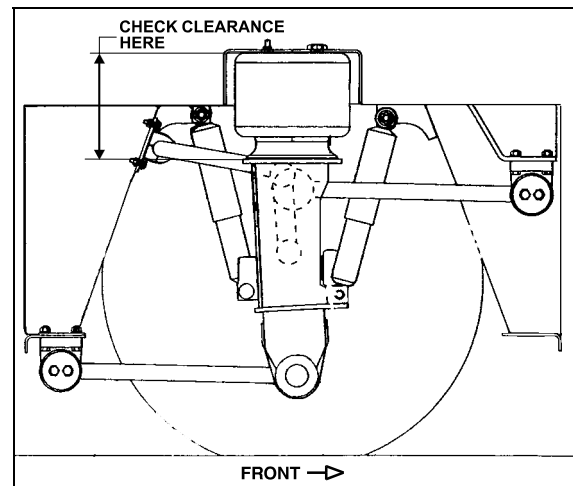

FIGURE 14: TYPICAL AIR SPRING CLEARANCE 16108
The appropriate vehicle body height is obtained by measuring the clearance of all the air springs installed on the front and drive axles. The clearance should be $12 \pm \frac{1}{4}$ " (305 ± 6 mm) for the air springs installed on the front axle and $11\frac{1}{2} \pm \frac{1}{4}$ " (292 ± 6 mm) for those installed on the drive axle. Refer to figure 14 to identify the correct location where the measure has to be taken. At this point, it should not be necessary to make an adjustment under normal service conditions. However, if an adjustment is
1. With the vehicle at normal operating air pressure, check the air spring clearance as illustrated in figure 14. This clearance should be $12 \pm \frac{1}{4}$ " (305 ± 6 mm) for the front axle air springs and $11\frac{1}{2} \pm \frac{1}{4}$ " (292 ± 6 mm) for those on the drive axle.
Note: The measure should be taken from under the upper air spring support on subframe to top of the lower air spring support on axle (refer to fig. 14 for more details). If adjustment is required, begin with the drive axle.